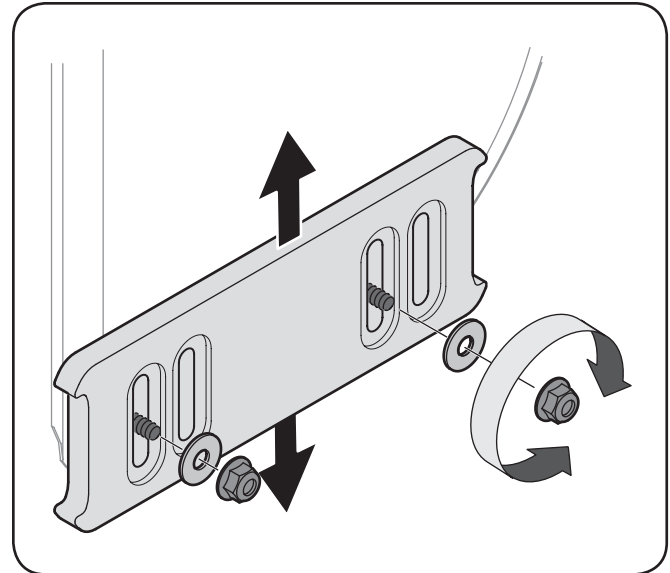

Figure 3-13
1. Loosen the four hex nuts (two on each side) and carriage bolts. Move skid shoes to desired position. See Fig. 3-13.